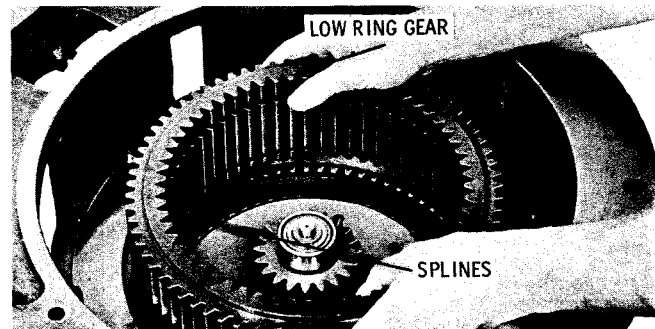

Fig. 7-17. Installing low-range ring gear
(1) Install the low-range ring gear with the longer, outer shoulder downward. Engage the internal splines of the ring gear with the intermediate-range carrier splines (fig. 7-17).